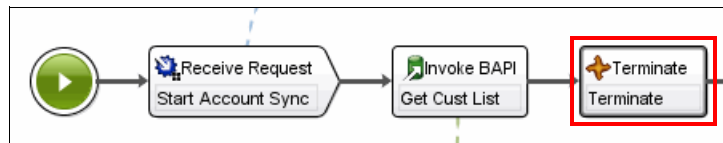

Figure 10-46 Get Cust List with terminate
1. Put a terminate activity just behind the “Get Cust List” Invoke BAPI SAP activity to avoid the results being sent to Salesforce.com, as shown in Figure 10-46.